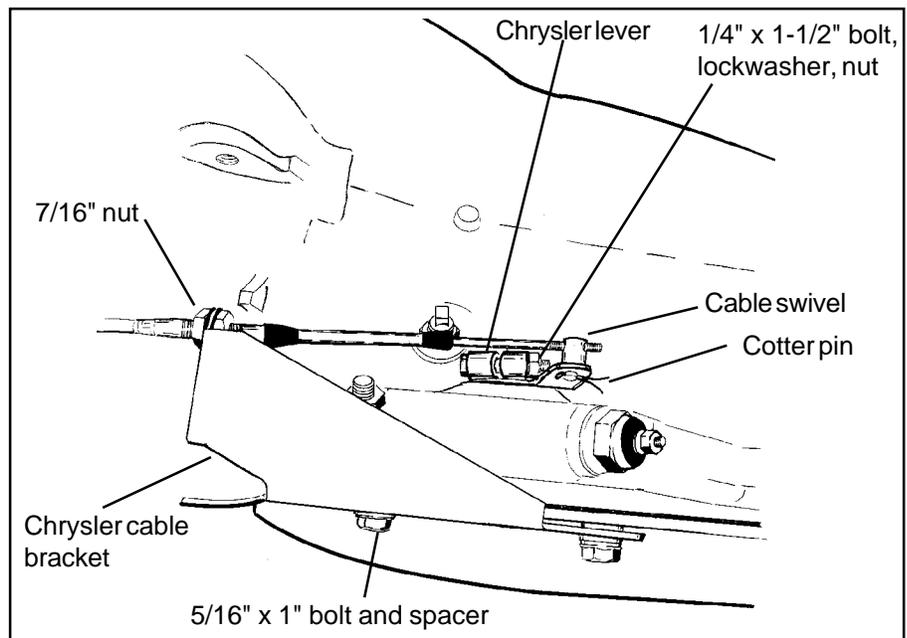

Figure 6
STEP 19. If you have not already done so, loosen the pinch bolt on the throttle lever on the transmission. This is the lever on the small diameter shaft. Pry the lever off with a screwdriver and allow the linkage to hang free. Remove and discard the stock shift lever and the stock shift linkage. Install the **B&M** selector lever in position and tighten the pinch bolt securely (See Figure 6). Make sure the lever is not pushed down so far as to touch the transmission case. This will cause the lever to bind on the case. The lever should travel smoothly from front to back with a positive click in each gear position. Install the stock throttle lever in position on the small diameter shaft as removed and tighten the pinch bolt securely. The throttle lever must operate smoothly.
STEP 20. Remove the two transmission oil pan bolts directly below the shift lever. Install the cable bracket in position (See Figure 6) with two spacers between the pan and the bracket. (If your transmission is equipped with a cast aluminum oil pan these spacers can be omitted.) Install the two 5/16-18 x 1.00" pan bolts supplied and tighten to 12-13 lb-ft. Do not over-